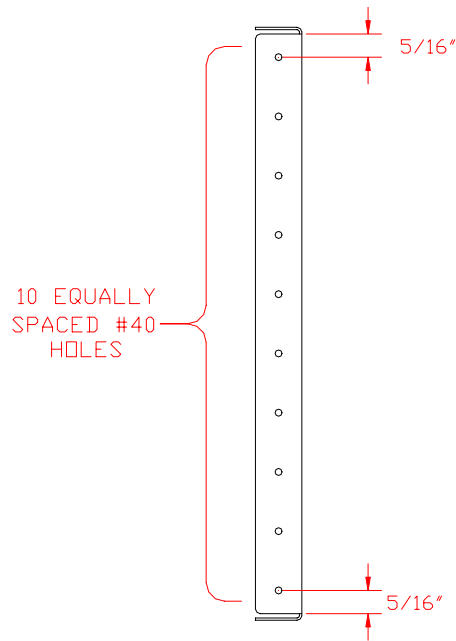

Figure 8.17.2
2) Drill ten equally spaced #40 holes through the side flanges of two of the Bulkheads only. **DO NOT** drill the third Bulkhead. Figure 8.17.2.